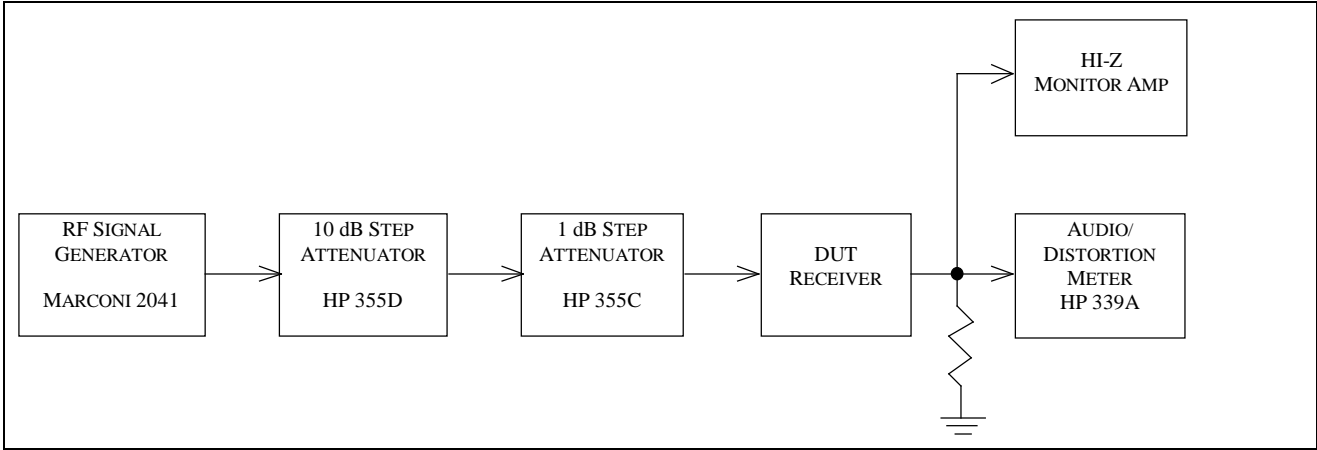

Fig. 5-14 — S-meter Test Hook-up
5.14.2 Test hook-up (See Fig. 5-14)